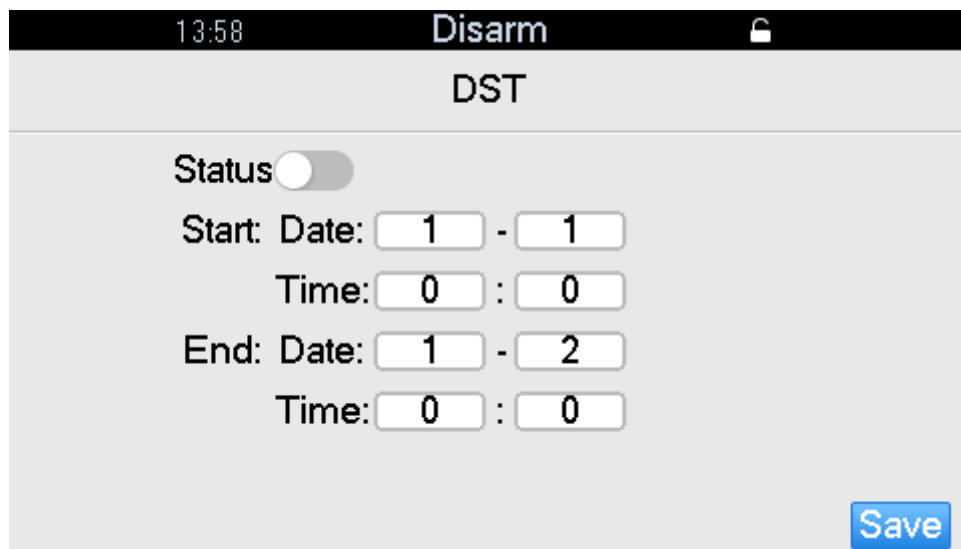

Figure 4-29
- The interface is shown in Figure 4-29.